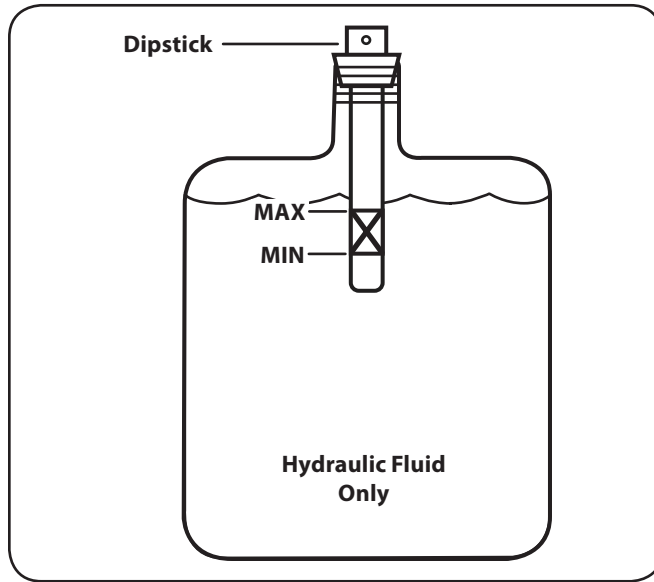

Figure 6-2
9. Refill the reservoir within range marked on the dipstick. See Fig. 6-2.